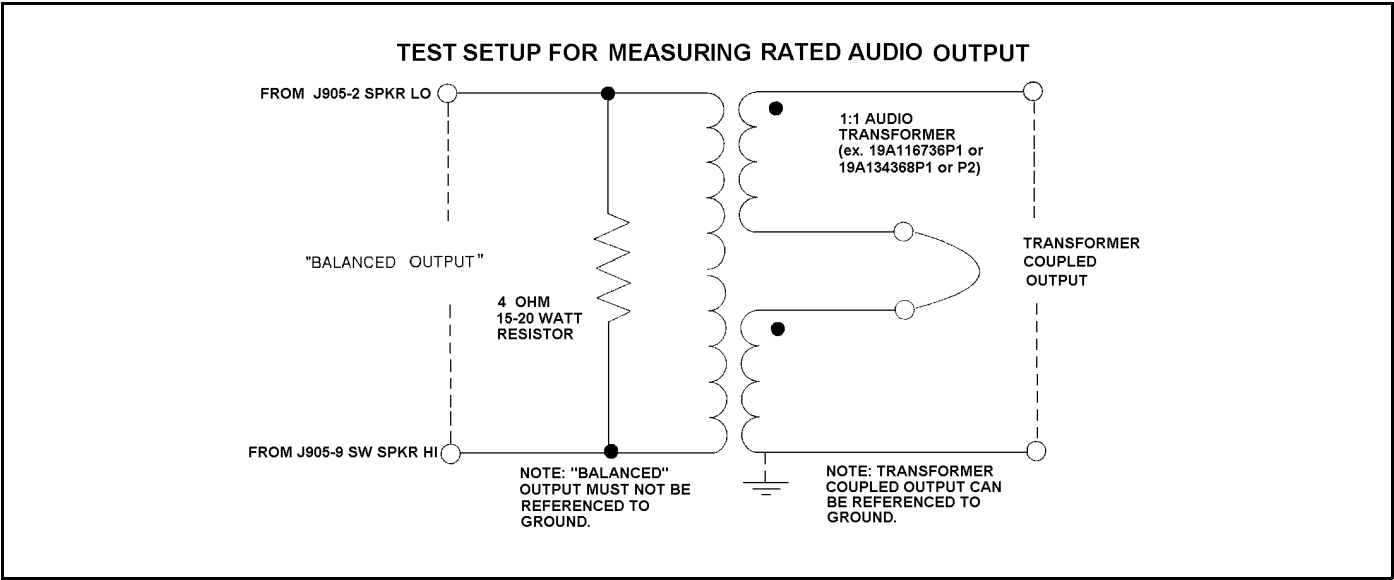

Figure 1 - Audio Output Test Setup
2. Check for greater than 12 dB SINAD on-channel at the Rx Audio output, on the TQ3310 or external speaker leads of option connector J905-2,9 (see Figure 1)
2. Monitor option connector J905-2,9 and adjust volume for 10 watts output (6.3 Vrms into 4 ohms). Distortion should be less than 5%. **NOTE:** The 10 watt audio output has "balanced outputs" and must be tested with the test setup shown in Figure 1.